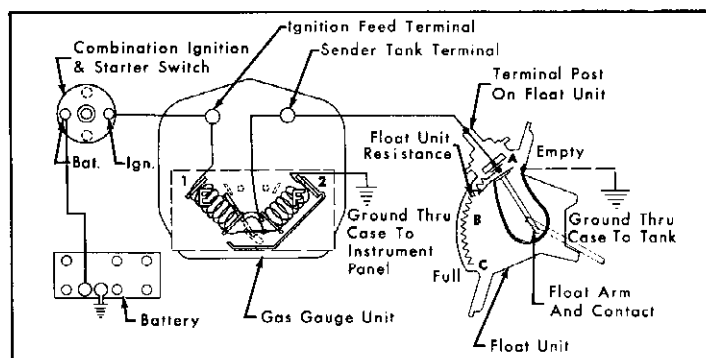

Fig. 15-8 Fuel Gauge Circuit
The first thing to do when checking a gasoline gauge is to determine whether the unit wiring is at fault. To check for a defective tank unit, disconnect dash unit to tank unit wire at tank unit and connect red lead on AC Gasoline Gauge Tester, Part No. 1516000, to wire from dash unit. The tester black lead should be grounded. See Fig. 15-8.
2. Open circuit in No. 1 coil of panel gauge, Fig. 15-8.
4. Open circuit in No. 2 coil, Fig. 15-8.
(10) Temperature Gauge Service